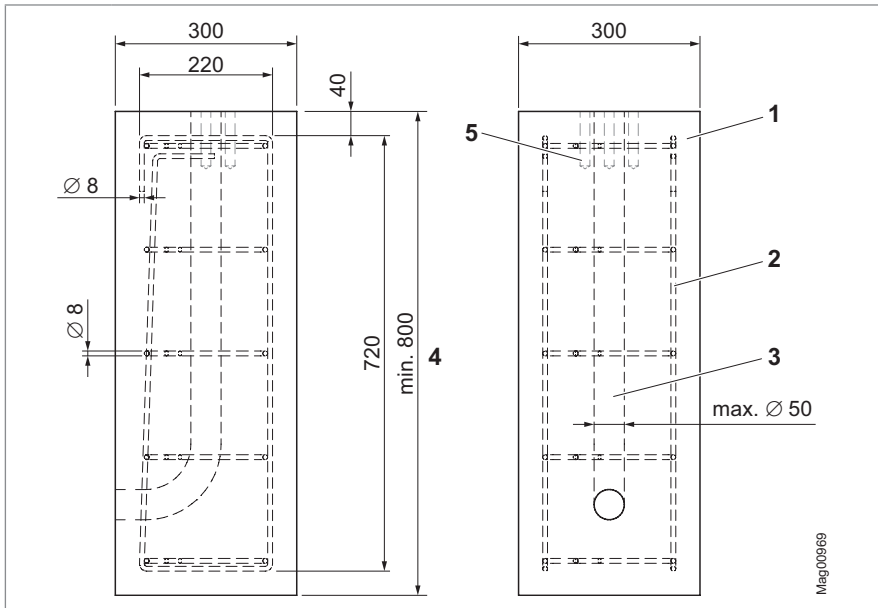

Fig. 11: Foundation and empty conduit plan and reinforcement (dimensions in mm)
↗ Foundation and empty conduit plan and reinforcement: Page 40, Fig. 11.
1. Excavate the foundation hole according to the foundation and empty conduit plan. ↗ Page 40, Fig. 11.